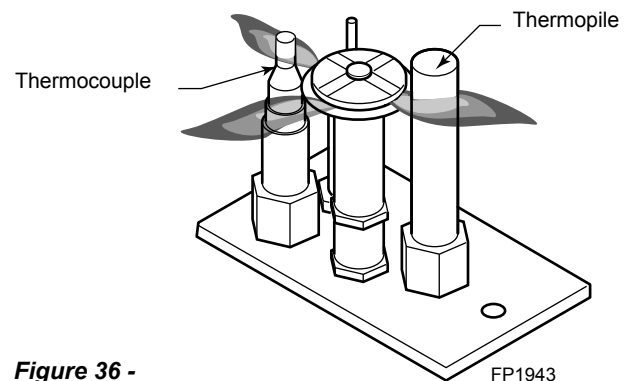

**Figure 36 -**
1. Check pilot flame. Flame should touch approximately 3/8" of the top of thermopile and touch top of thermocouple. *Figure 36*. If not, contact dealer for service.